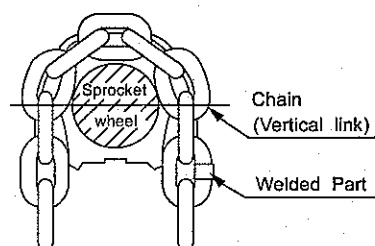

Figure 9 Chain Setting Direction
5. Attach the new chain to the lowering side of the old chain with the C-link being sure that the chain welds are old chain so that when the new chain is installed, the welds will face out from the sprocket groove. See Fig. 9